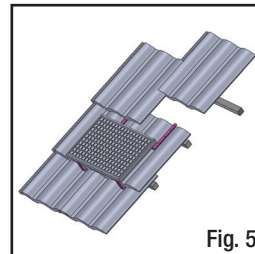

Fig. 5
5. Slide tiles back into place Fig. 5 & 6.